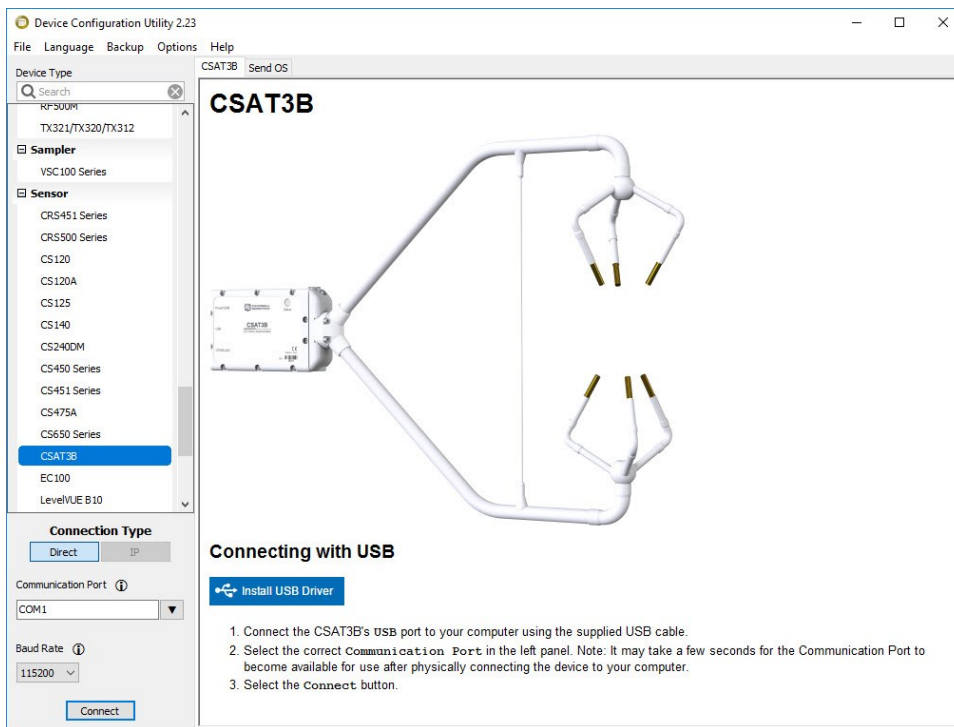

Figure 6-1. Connecting CSAT3B using *Device Configuration Utility*
4. From the left side of the main screen, select the CSAT3B (note that there is no CSAT3B selection, since the CSAT3B functions like a CSAT3B when communicating with *Device Configuration Utility*) among the list of sensors. Select the appropriate communication port and baud rate (refer to the left side of Figure 6-1 (p. 20)).
5. If this is the first time the computer has connected to a CSAT3B, and depending on the computer settings, the USB driver may need to be manually installed. To do this, make sure the computer is connected to the internet and click **install the USB driver** link as shown in Figure 6-1 (p. 20)).